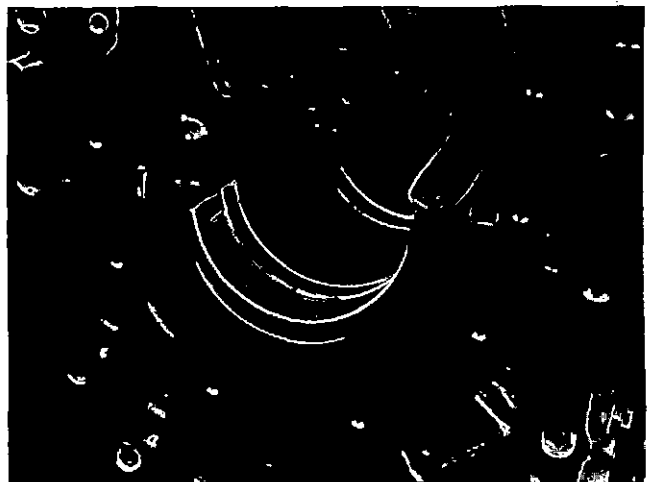

Fig. 14-2 (N114242). Install The Upper Main Bearing Shells.
2. Install the upper main bearing shells, Fig. 14-2.